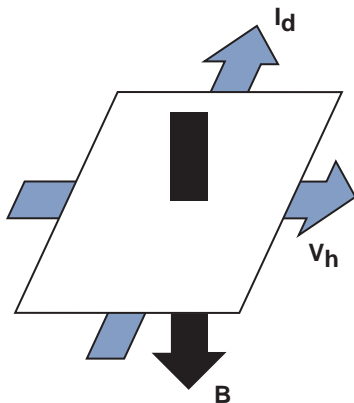

Figure 6
When a thin semiconductor (Figure 6) is placed at right angles to a magnetic field (B), and a current (I_d) is applied to it, a voltage (V_h) is developed across the semiconductor. This